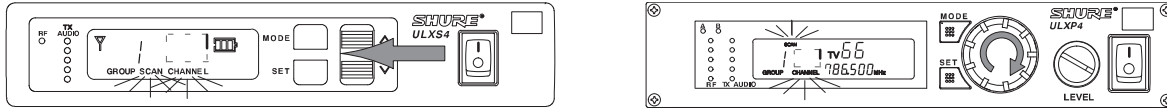

FIGURE 10
- Press the  buttons (ULXS4) or rotate the control knob (ULXP4) clockwise one quarter turn. The next open Channel number will appear on the display, as shown in Figure 10.